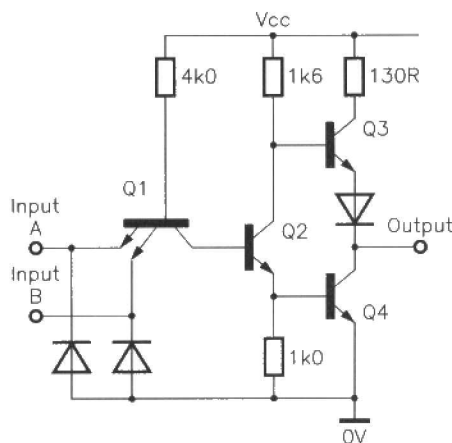

Figure 1. Circuit of a standard TTL 7400 2-input NAND gate.
**Standard TTL.** Similar to the basic type already described, except that each of its inputs is provided with a protection diode that helps suppress transients and speed up its switching action. Figure 1 shows the actual circuit of a 7400 2-input NAND gate; its power consumption is 10mW, and its propagation delay is 9ns when driving a 15pF/400Ω load.
**Low-power (L) TTL (now obsolete).** A mod-